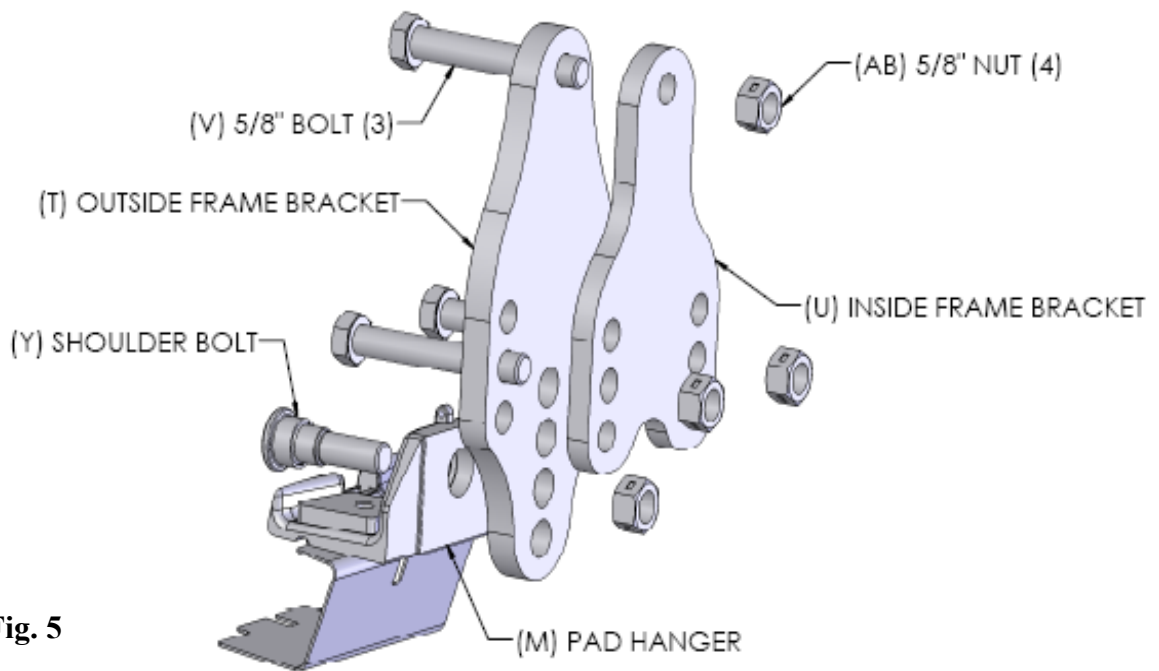

Fig. 5
**FRAME BRACKET ASSEMBLY (1200 lb and 1500 lb kits only, shown in Fig. 5)**
- Assemble 5/8” bolt (V) through the top holes of the outside frame bracket (T) and inside frame bracket (U) shown in Fig. 5.
- Install three 5/8” nuts (AB) and hand tighten.